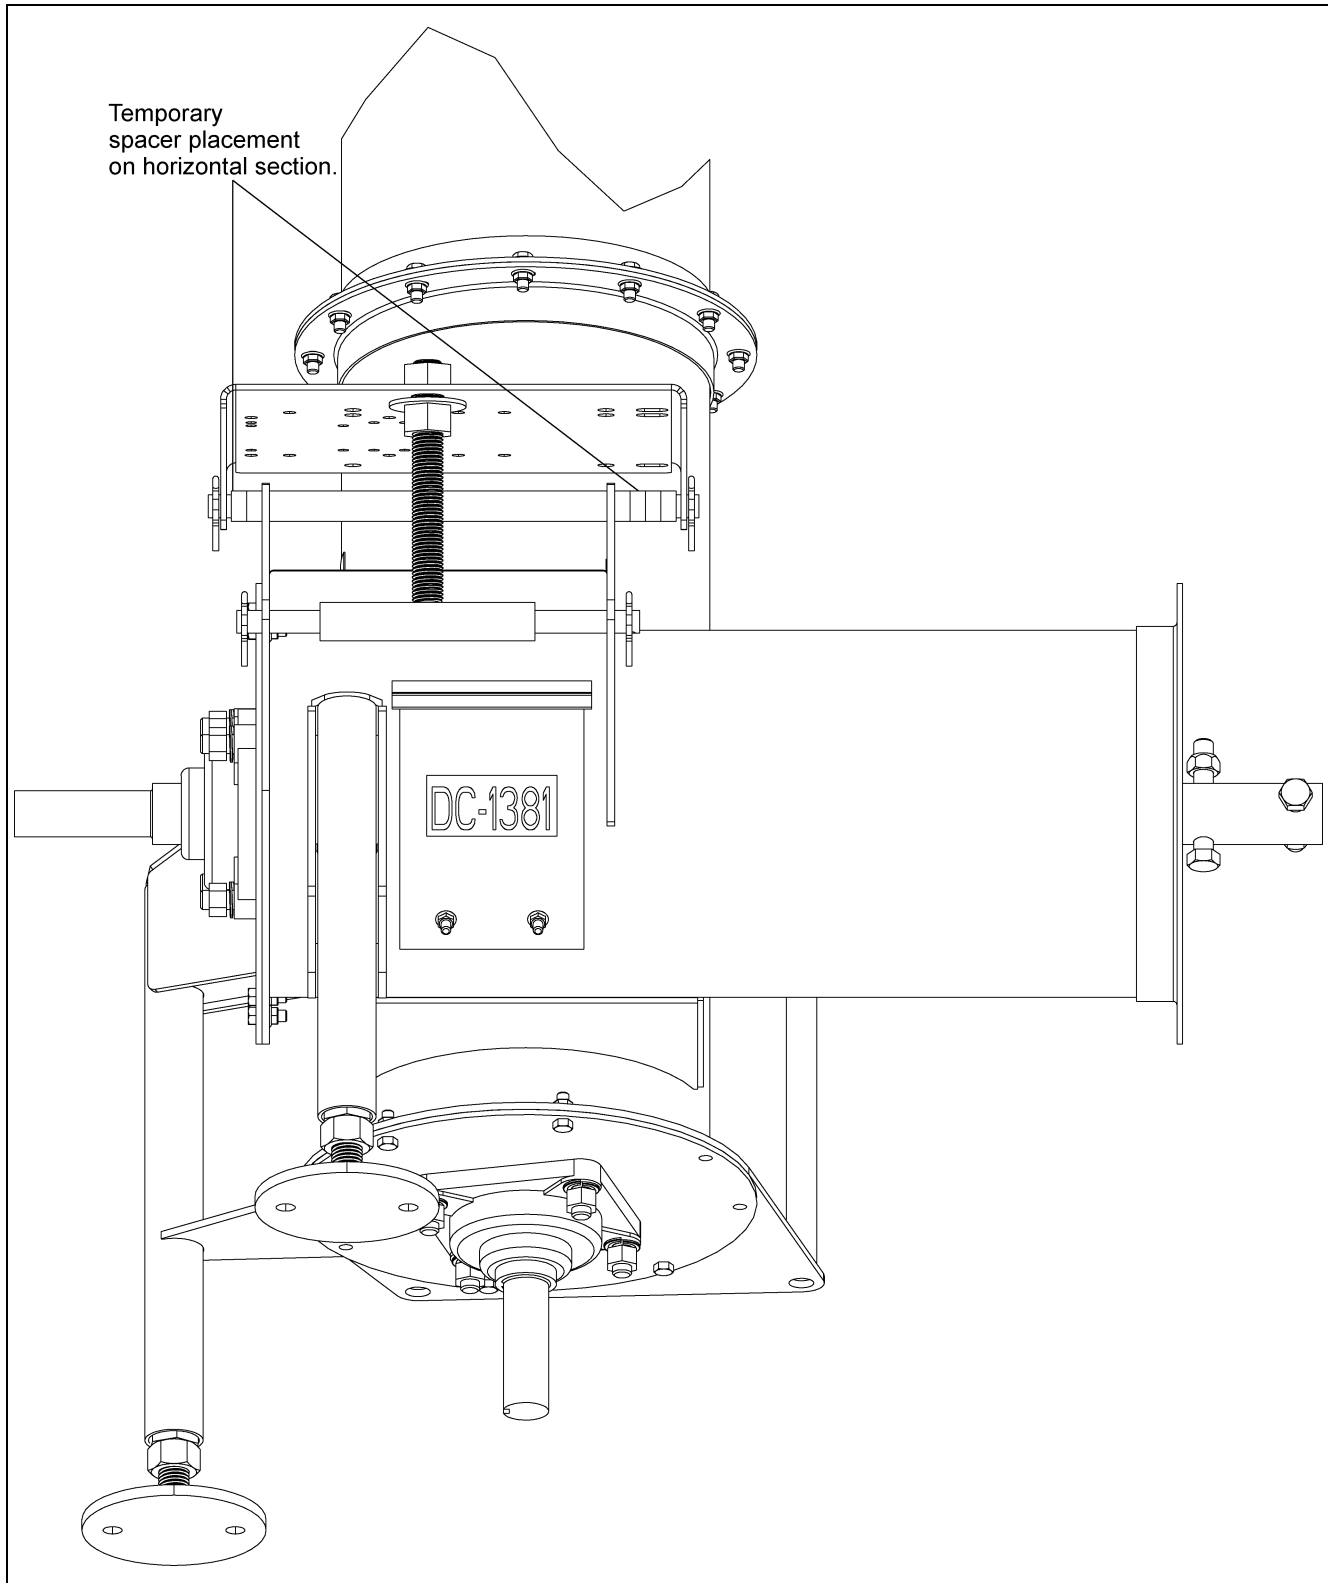
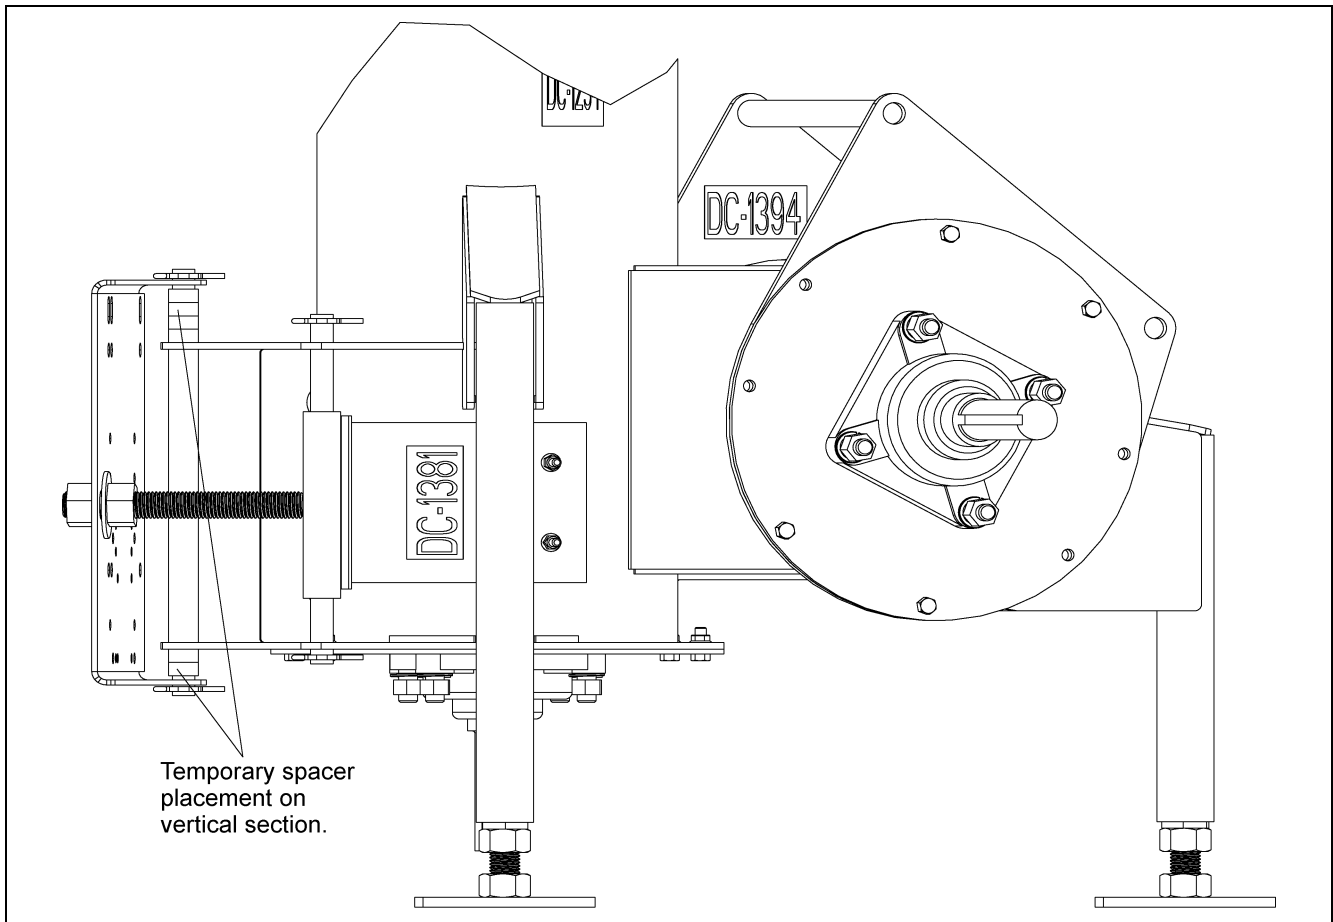

Figure 3J
Figure 3K
D. When the *pivot rod* begins to extend through the pivot tube, install the *spacers* BETWEEN the back plate and the inner face of the *motor mount plate*. (See Figure 3J below and Figure 3K on Page 19.)